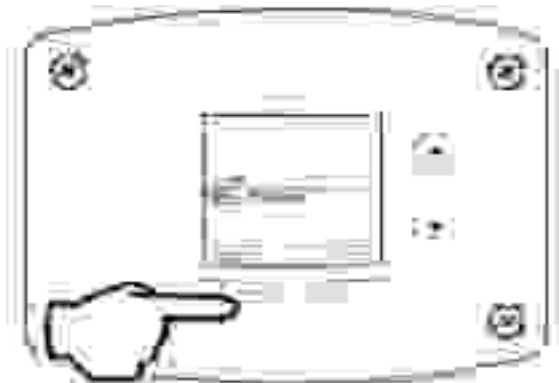

Fig. 27
1. Press 'SELECT' button until °F/ °C is displayed (Fig. 27).